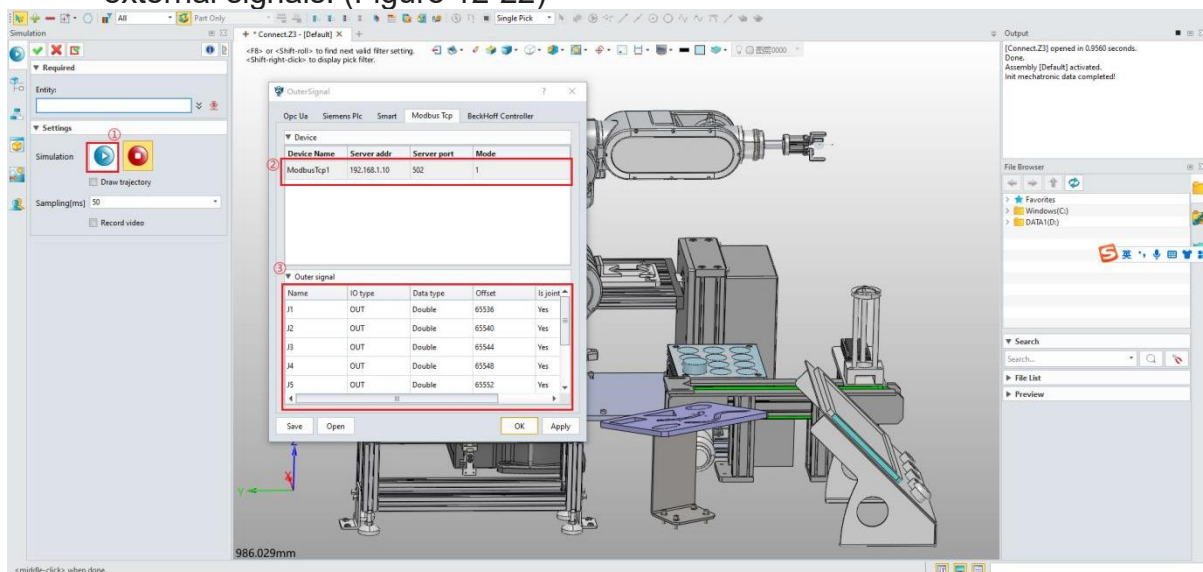

Figure 12-22: Simulation verification
- In the "Simulation Control" window, click the "Start Simulation" button on the far left side. (Figure 12-22, point ①)
- You will see the device server you added, identified by ②, along with its ③ external signals. (Figure 12-22)